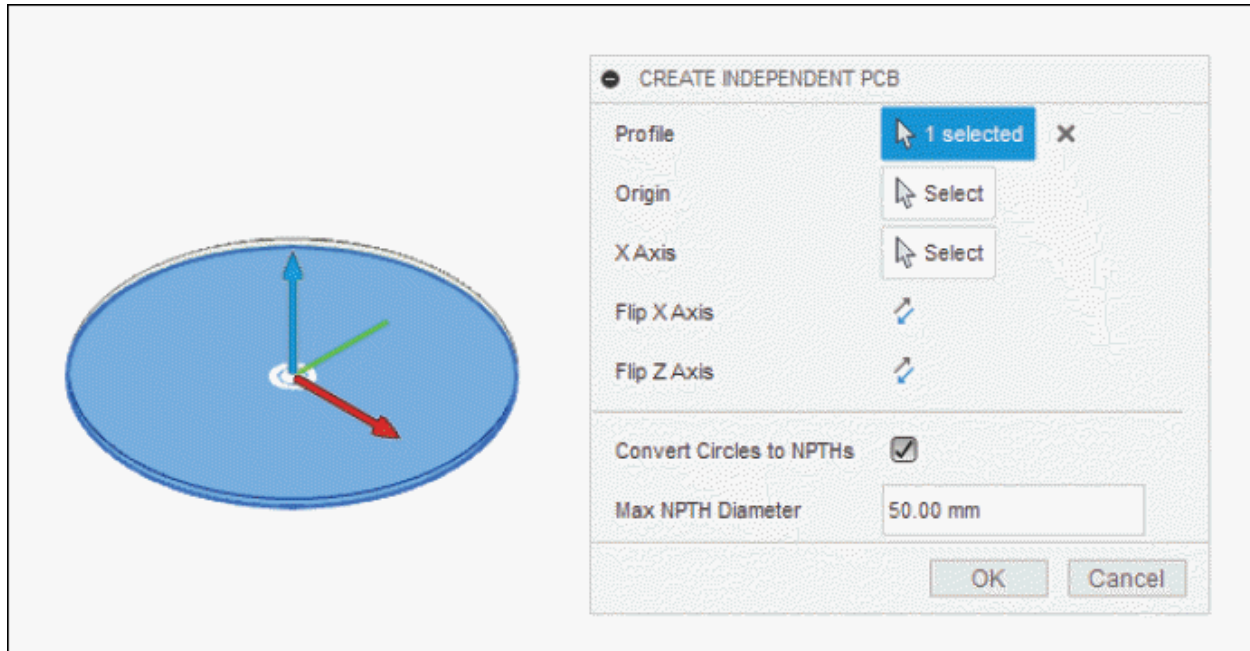

Figure-133. Selecting the profile
- Select desired sketch profile from canvas; refer to Figure-133 and specify desired parameters in the dialog box.